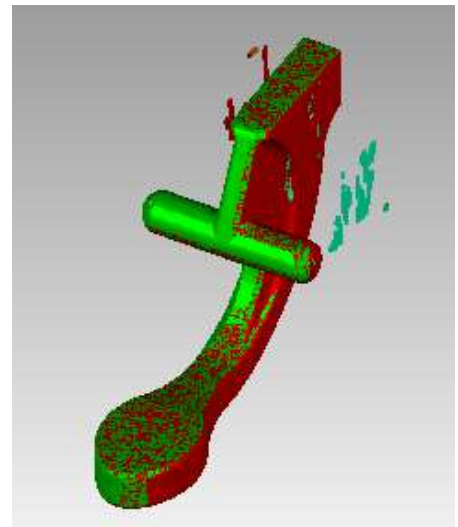

Figure 35
- When using **1-Point Registration**; registration will start automatically when the second point is picked. If you have performed a successful registration the bottom window will update to show the aligned scans with overlapping data as shown in **Figure 35**.